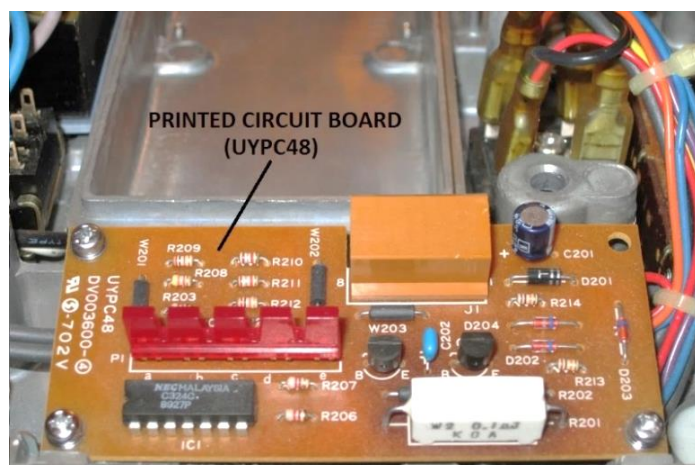

Figure 23 – UYPC48 dimmer board mounted onto electrical base
A replacement for the entire UYPC48 dimmer printed circuit board (see Figure 23 and Figure 24) is rarely needed, since the circuitry on this board is simple and can usually be repaired when necessary. If a complete replacement is needed, refer to the next section. Suitable replacements for most components on the dimmer board can be readily found. The 5-LED array can be replaced with an NTE3150 red array (item 22 of Table 2), manufactured by NTE electronics. If this cannot be